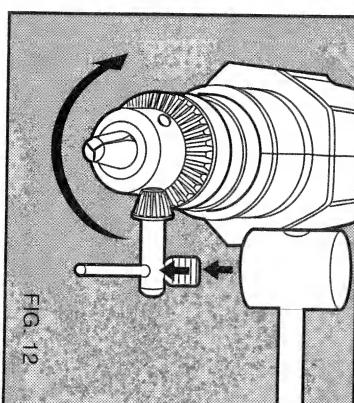

FIG. 12
(Figures 12 and 13)
1. Place chuck key in chuck as shown in Figure 12. Using a wooden mallet or similar object, strike key sharply in a **CLOCKWISE** direction. This will loosen screw inside chuck.